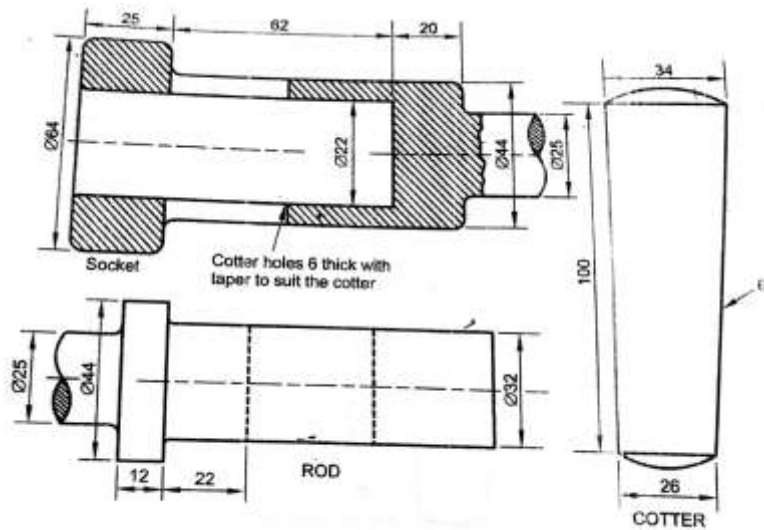

Figure 2
Q.12 Details drawings of Socket and Spigot joint for rods to be joined are shown in figure2 Draw its front view in full in sketch and right side view.